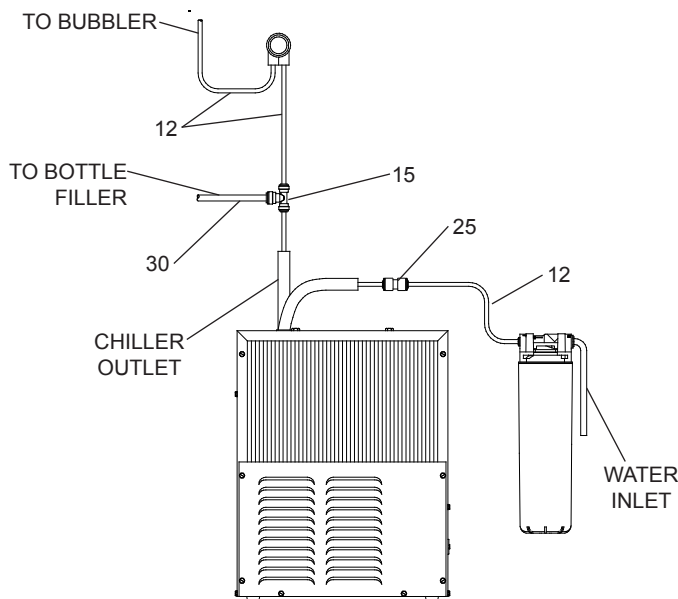

Figure 3 - LZWS-LRPB Tube Routing
- 4. (For LZWS-LRPBM8K) Install the filter head** to the bracket then install bracket to side of chiller (Fig. 9). Next install filter to filter head and plumb from filter outlet to the chiller inlet with 1/4" poly tubing and 1/4" x 1/4" union per (Fig. 3).
- 4a. Install chiller on shelf,** install 1/4" X 1/4" x 3/8" Tee on chiller outlet tube. With the back panel standing close to the frame, connect the 3/8" poly tube coming from the bottle filler to the tee (Fig. 3).